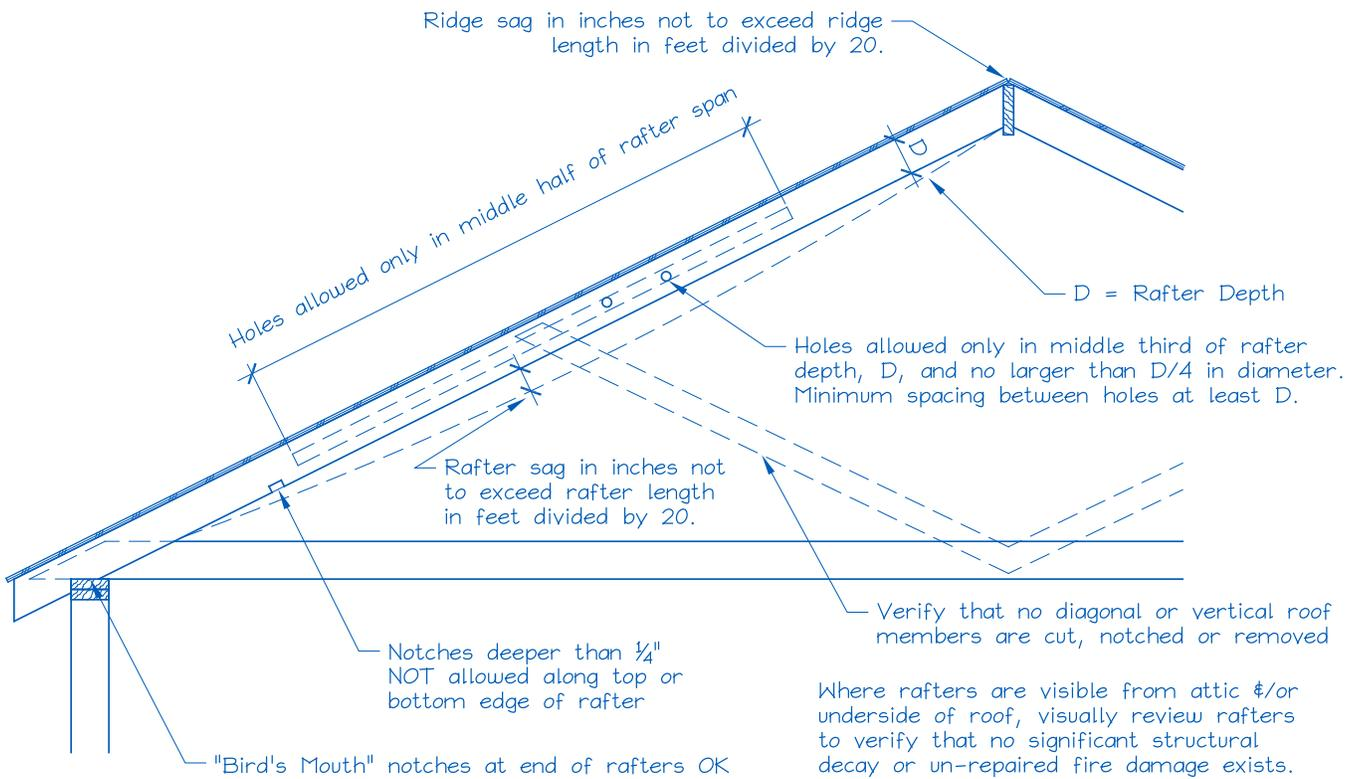

Figure 1. Roof Visual Structural Review (Contractor's Site Audit) of Existing Conditions.
- 3) Does the roof structure appear structurally sound, without signs of alterations or significant structural deterioration or sagging, as illustrated in Figure 1? Y N